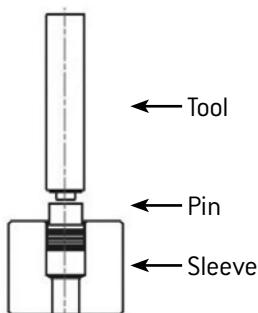

Fig. 2
- With the pin facing out, the KOENIG CHECK VALVE® is inserted in the counter-bored hole [Fig. 2].